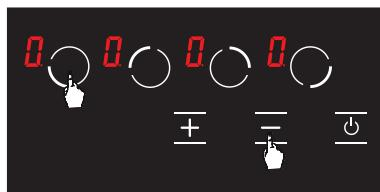

Figure 14
1. Press front left hob selection key () and minus key () simultaneously, you shall hear a short warning signal at this time. (see Fig. 14) Then, remove your fingers from the stove control panel.